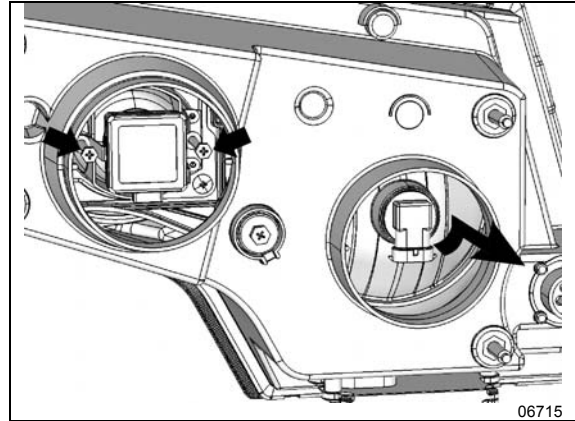

FIGURE 25: HEADLIGHT ASSEMBLY REAR VIEW
5. **HALOGEN:** turn the bulb base counterclockwise. **XENON:** Unscrew the Phillips head screws indicated by arrows, pull the retainer and bulb out (**FIGURE 25**).